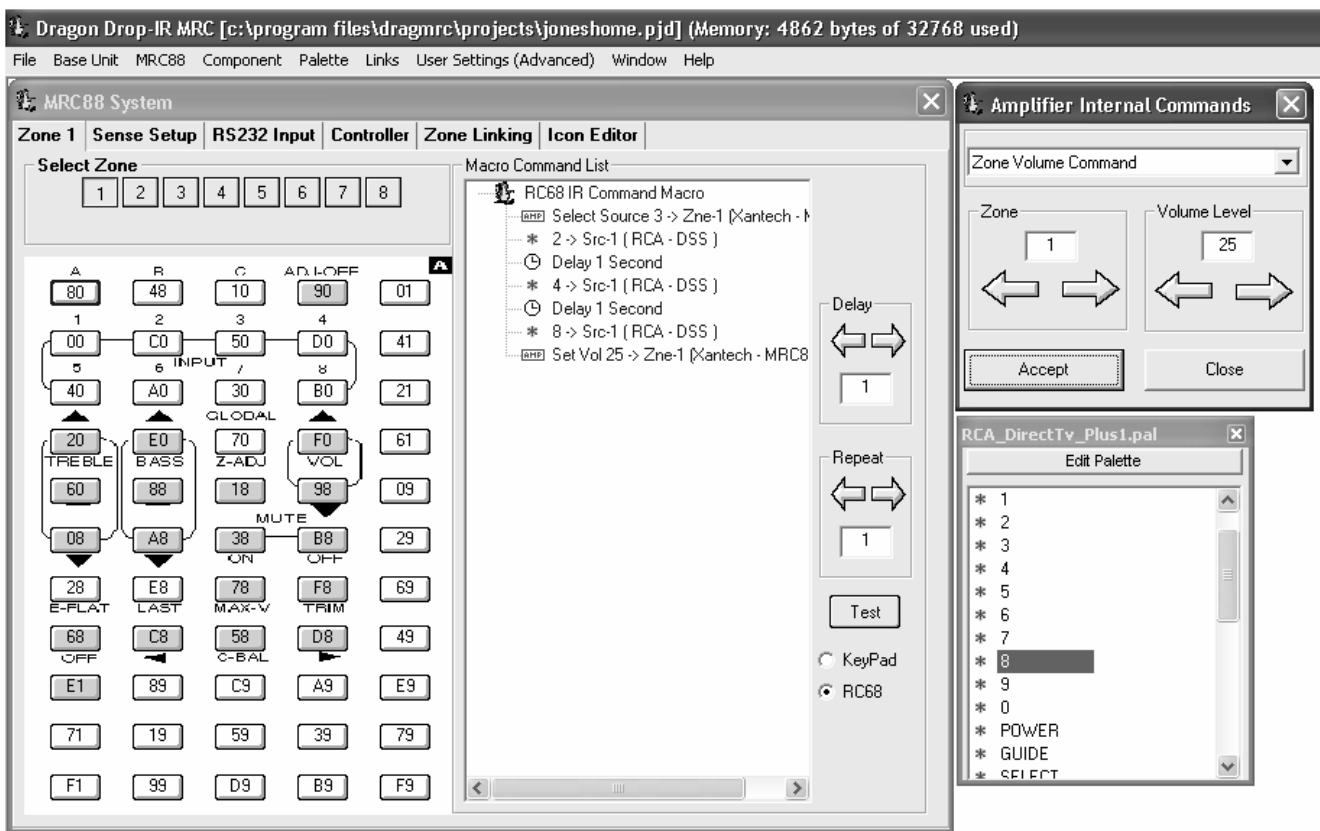

Figure 39 – RC68 IR Command Macro Window
1. Access the RC68 IR Command Macro Window as shown in **Figure 39** by selecting the RC68 located in the lower right corner of the Virtual Keypad window.